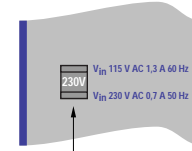

Fig. 2: Selector switch (in this case: switch position on 230V)
- Make absolutely sure, that the selector switch (see Figure 2) is in the correct position.